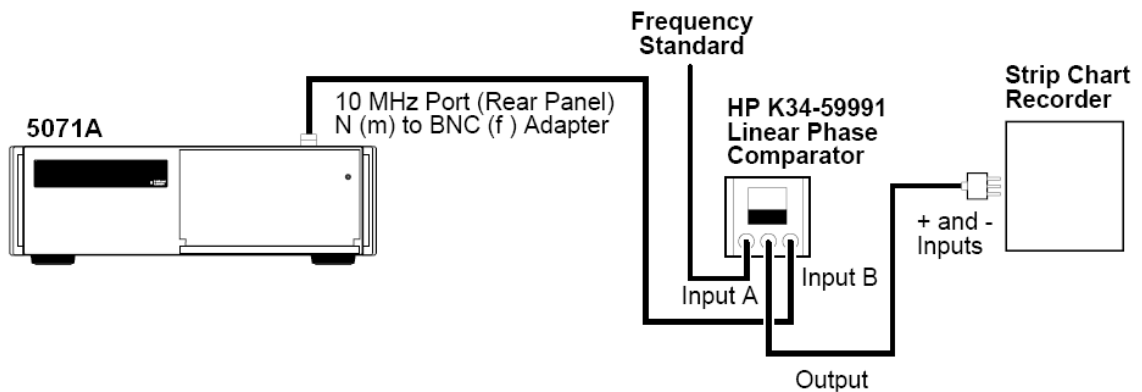

Figure 1-7. Frequency Accuracy Test Setup
- 2 Connect the HP/Agilent K34-59991A Phase Comparator OUTPUT terminals to the strip chart recorder as shown in Figure 1-7. Set the recorder for 1V full scale and 1 inch/hour. Turn on the recorder.
- 4 Connect the 10 MHz reference to INPUT A and the 5071A (unit under test) 10 MHz to INPUT B as shown in Figure 1-7.